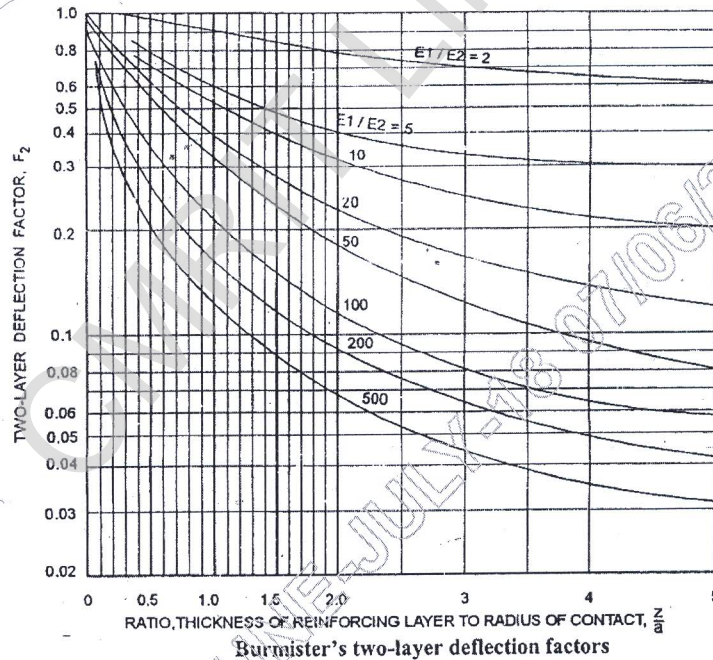

Fig. Q2 (c)
- c. The plate bearing tests were conducted with 30 cm plate diameter on soil subgrade and over 45 cm base course. The pressure yielded at 0.5 cm deflection are 1.25 kg/cm^2 and 8 kg/cm^2 respectively. Design the pavement section for 5100 kg wheel load with tyre pressure of 7 kg/cm^2 for an allowable deflection of 0.5 cm using Burmister's approach. (Refer chart given for Burmister's two layer deflection factors in Fig. Q2 (c)) (08 Marks)